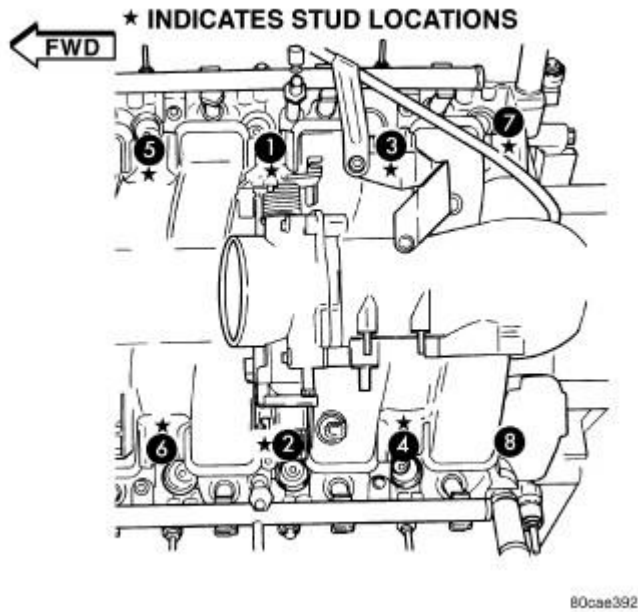

Fig. 8: Intake Manifold Bolt Removal/Tightening Sequence
26. Remove intake manifold. Refer to **Fig. 8**.